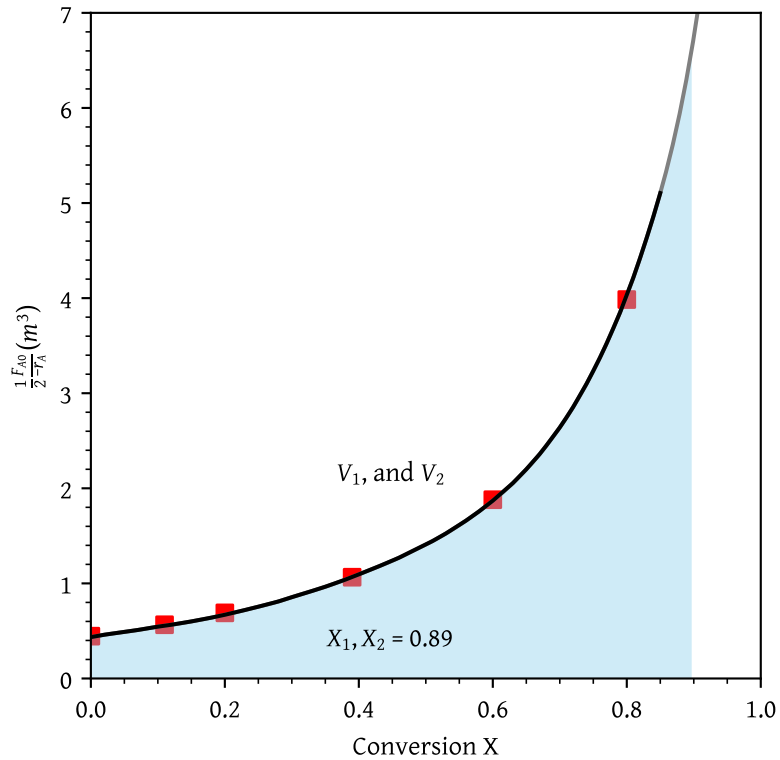

Figure 6: Conversion from two PFR in parallel
- (d) Two PFRs in parallel with the feed divided equally between the two reactors (Figure 6).